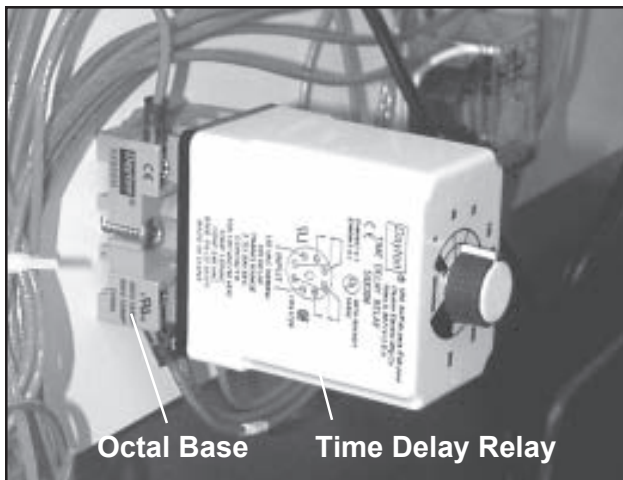

Figure 142. Time Delay Relay
3. Pull the alarm time delay relay out of the octal base (Figure 142).
4. Pull the alarm time delay relay out of the octal base (Figure 142).